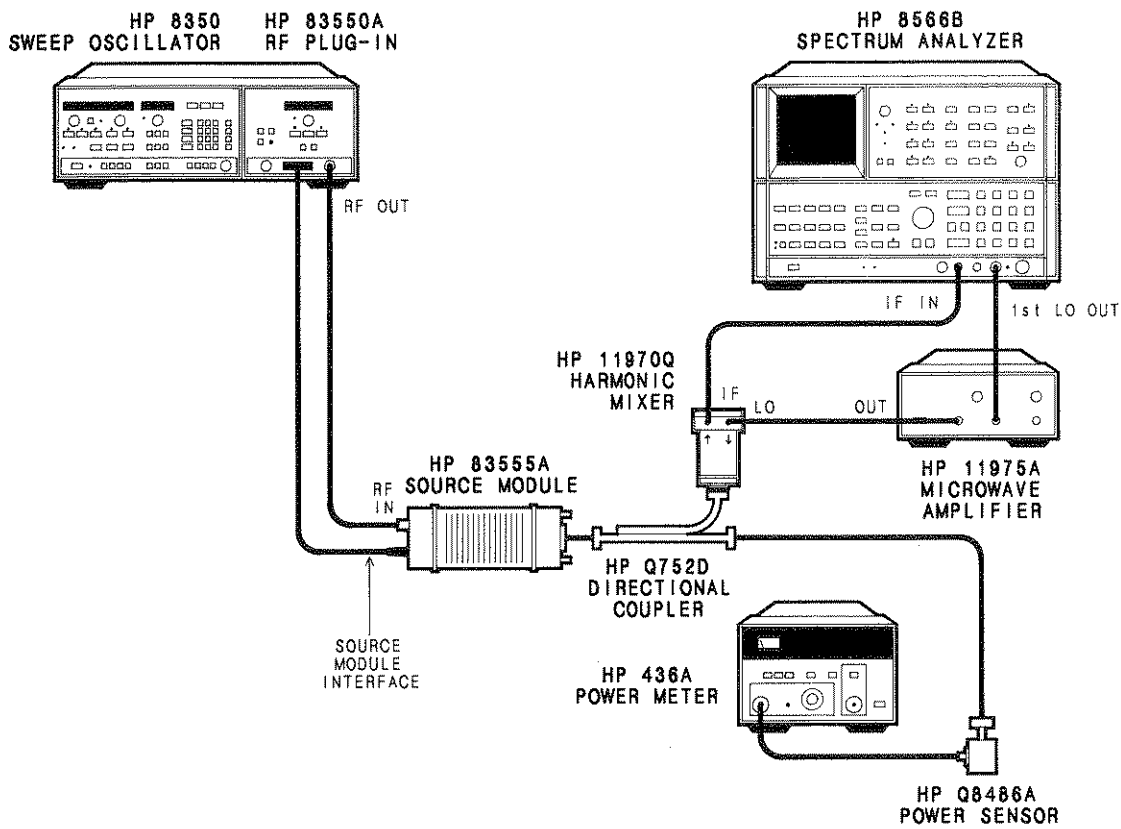

Figure 3-7. Multiplier 4/3 Harmonic Signals Typical Test Setup
The RF output signal from the source module is tuned from 33.0 to 40.5 GHz and 4/3 harmonics are displayed on a spectrum analyzer to verify that any harmonic spurious signals are at or below their specified levels. The test configuration in Figure 3-7 uses an external harmonic mixer to extend the frequency range of the spectrum analyzer. When this technique is used, the response is not pre-selected and multiple signals are displayed. Each response is examined not only for power level, but whether or not the signal is truly in band by using the spectrum analyzer's signal identification function.
1. Connect the equipment as shown in Figure 3-7. Turn on all system components.
Because the test configuration in Figure 3-7 specifies that the external mixer be connected to the coupled arm of a 20 dB directional coupler, the coupled power must also be taken into account when calculating reference level offset. The new equation is as follows: